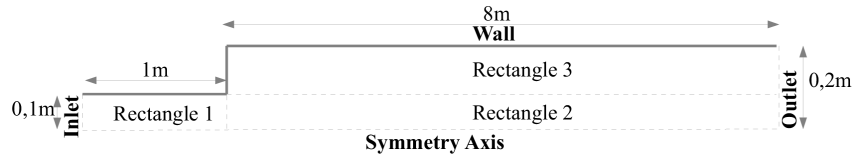
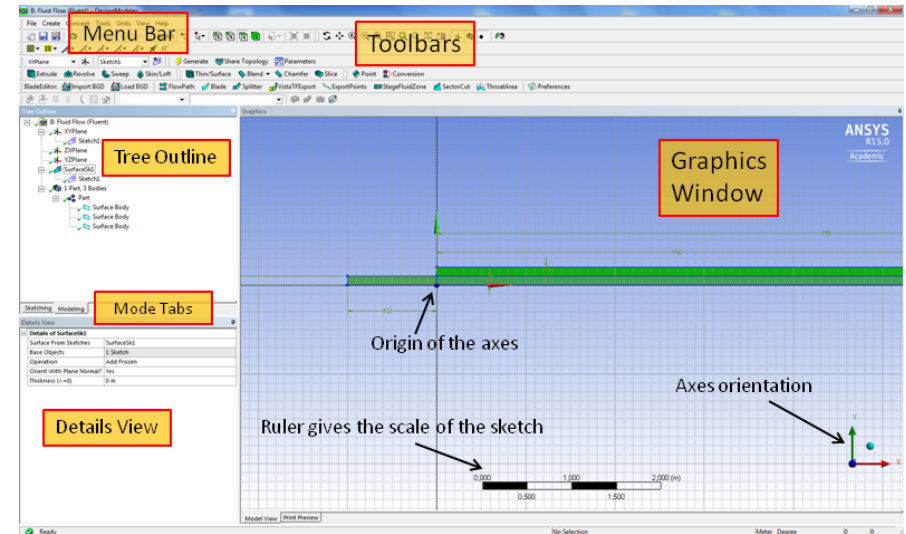

Figure 3: Computational domain and boundary conditions for the cylindrical expansion flow. The 2D computational domain is composed of 3 rectangular surfaces.
Figure 4: GUI of DesignModeler. Note that 2D geometries should be created in the XY plane. Click on the axes to change orientation of the graphics window.
According to the symmetries of the flow domain of Fig. 1, we assume that the flow is asymmetric so that it is only required to create the computational domain shown in Fig. 3. These assumptions allow us to do 2D computations instead of 3D, that will save computational time and memory space.
The graphics interface (GUI) of DesignModeler is shown in Fig. 4. The most relevant components are:
Step 1) **Sketching mode:** draw the contours of the domain in one (or several) 2D sketches. It is easier to split the computational domain in several elementary entities (like the 3 rectangles of Fig. 3) and draw them separately.
Apply now this strategy to create the domain of Fig. 3. In the same sketch sketch, you will draw each of the 3 rectangles shown in this figure, then assemble them as a unique **part** with 3 distinct **surface** bodies.
- 1) In the sketching mode, create Rectangle 1 with the Draw toolbox of Fig. 3 and set its dimensions⁴. Repeat for the other 2 rectangles. Align them as shown in Fig. 4 by using the Constraints toolbox⁵.
- 3) You should have created 3 parts made from the 3 surface bodies you have drawn (look in the Tree Outline). Now, to assemble the 3 bodies in the same part, select them all and right-click on **Form New Part**. As a result, you have created the computational domain as 1 part made of 3 surfaces bodies, as in the tree outline of Fig. 4.